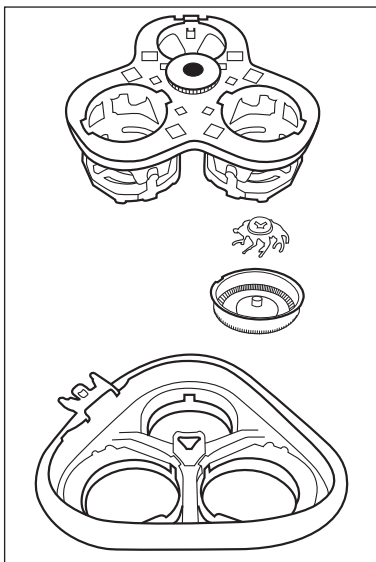

Figure 1
- 3) Press the black gear wheel down slightly and turn it carefully anticlockwise until the shaving head holder can be lifted out (see Figure 1).
- 5) Replace the cutting unit ②. Refer to figure 1 for assistance:
- Insert the 3 shaving heads in the recesses of the cutting unit ②. Ensure that the notches on the edge of the shaving heads rest on the catches in the opening.